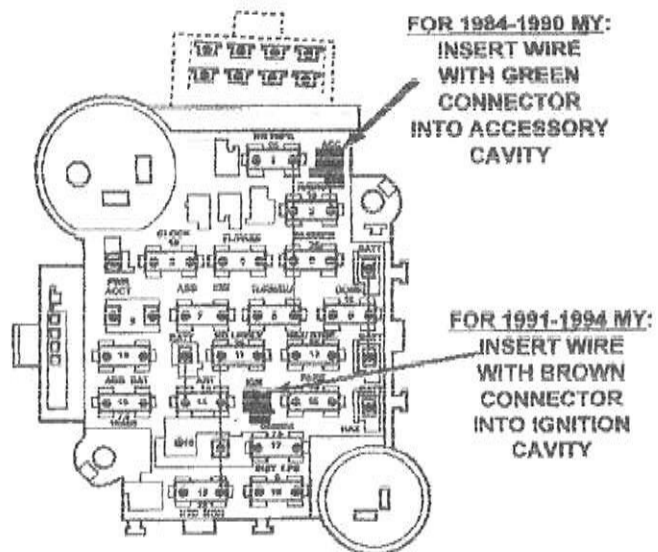

Figure 26
- **FOR 1991 - 1994 MODEL YEAR VEHICLES:** Insert the **BROWN** wiring harness single wire connector into the fuse block **IGNITION FEED** location marked "IGN" (Figure 26).
- **FOR 1984 - 1990 MODEL YEAR VEHICLES:** Insert the **GREEN** wiring harness single wire connector to the fuse block **ACCESSORY FEED** location marked "ACC" (Figure 26).